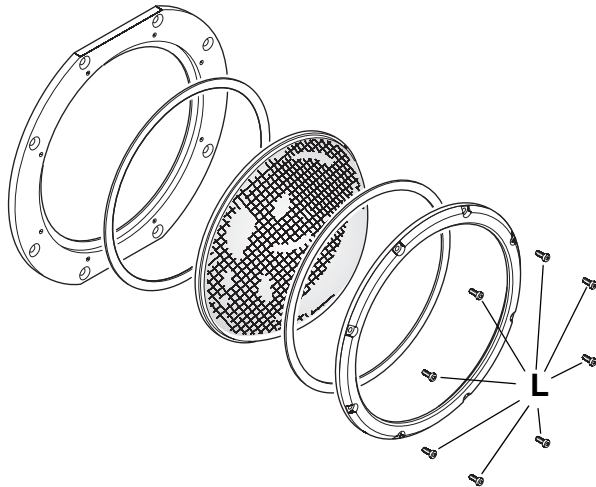

**Figure 3: Asymmetrical Beamshaper mounting posts in Very Narrow (long barrel) models**
1. See Figure 3. Fasten the four mounting posts **F** supplied in the lens kit into the four threaded holes around the lens aperture on the inside surface of the front cover and place a rubber washer **G** over each post.